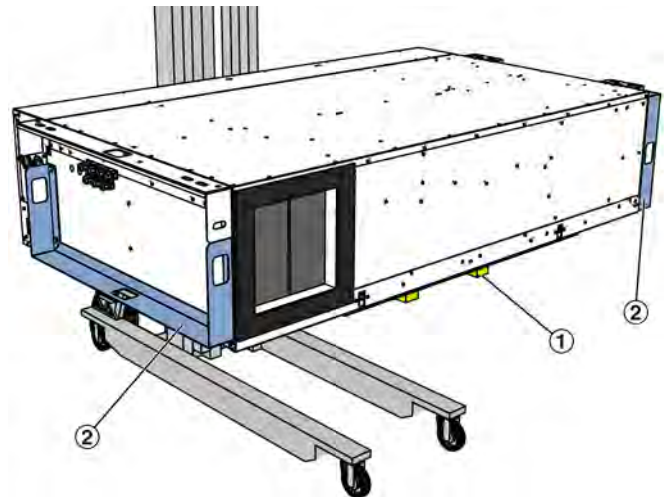
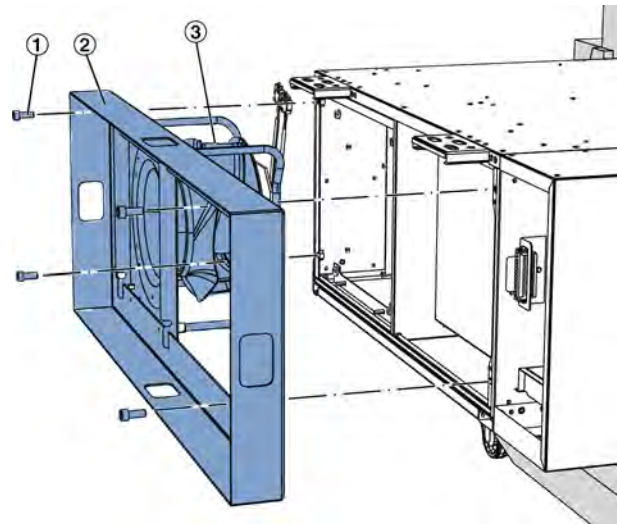

Fig. 10: Place component 1 on assembly lift
Fig. 11: Transport aids with fan
2. ▶ Move the assembly lift (Fig. 10 /1) to the place where the ceiling assembly is to be carried out. Place component 1 on the assembly lift with the covers facing downwards. Make sure that the painted surface of the device is not damaged; e.g., place cardboard between the lift and the device to protect it.
3. ▶ Remove the transport aids (Fig. 10 /2) from both ends of component 1. To do so, loosen the screws (Fig. 11 /1) and remove the transport aids. At the disconnection point, the fan (Fig. 11 /3) is also pulled out of the device. Store the fan and screws for later assembly. Screw the screws of the transport aid back into the unit.